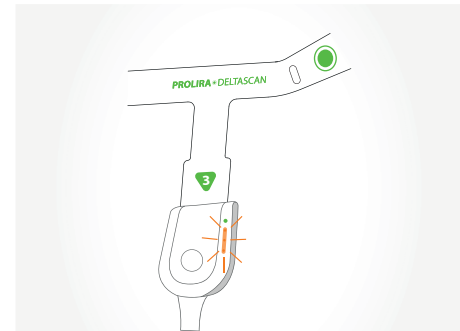

Figure 26: When the user releases the Recording button, the measurement is PAUSED. The strip of LEDs in the Patch connector blinks orange.
- The strip of LEDs in the Patch connector, that blinks orange (see Figure 26)